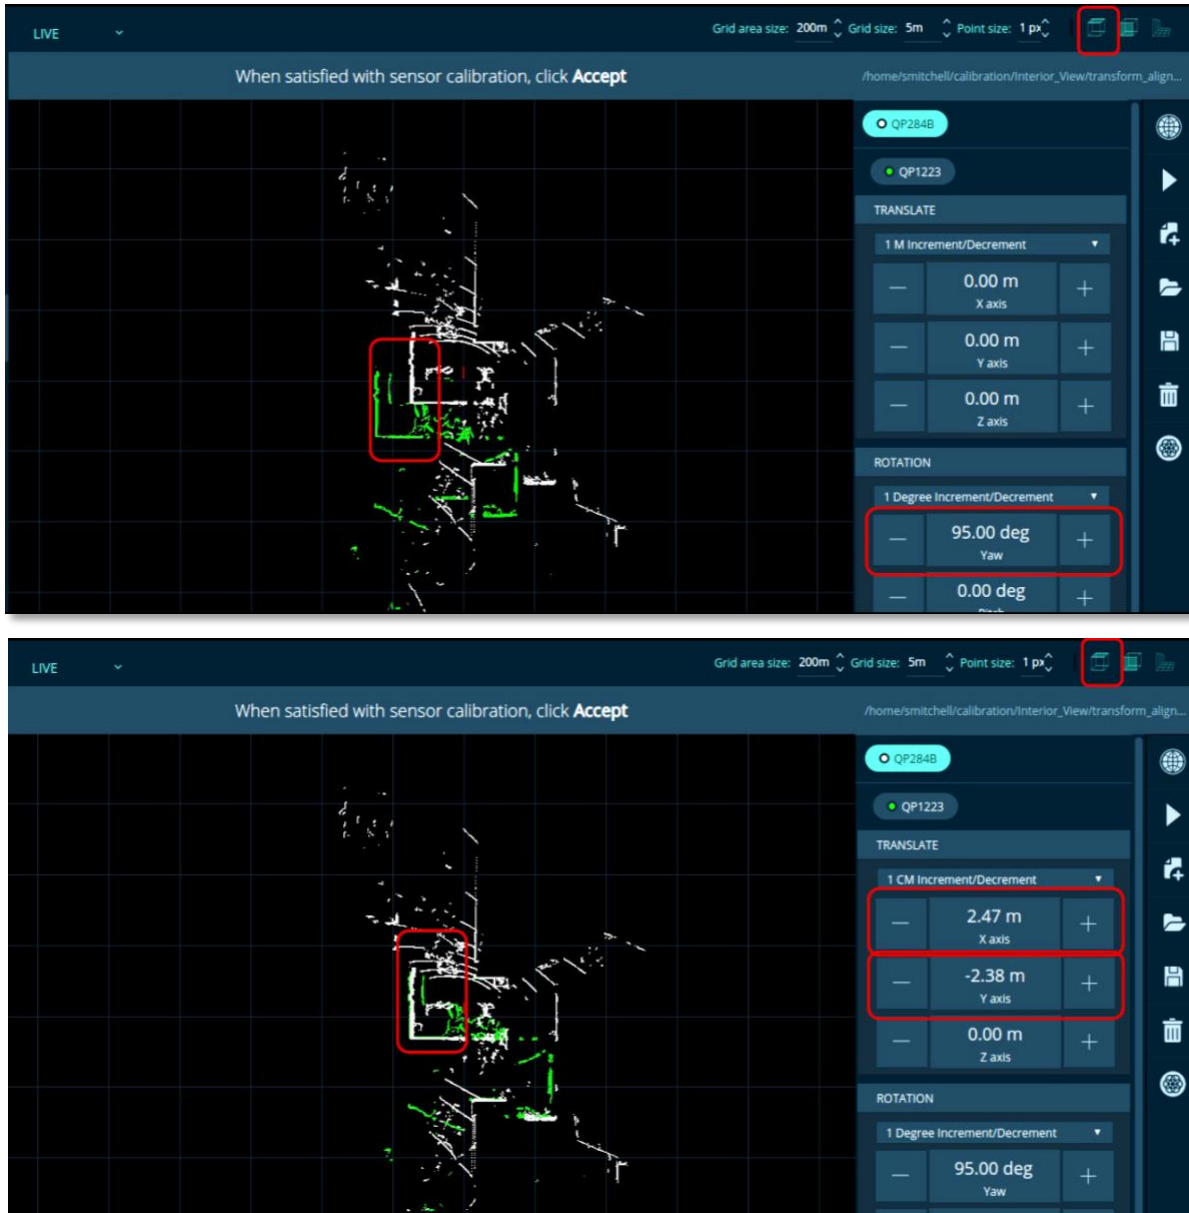

Figure 57. Calibrate Tab: Second Sensor Align XY to Grid, Before (top), After (bottom)
5. Click the **Top View** button to see how the point cloud **XY axes** align with respect to the grid. See *Figure 57. Calibrate Tab: Second Sensor Align XY to Grid, Before (top), After (bottom)*.